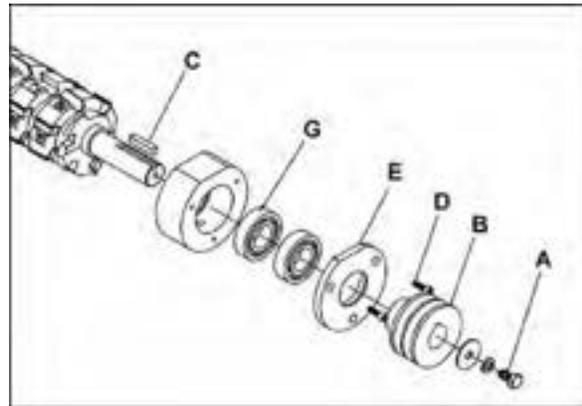

Figure 33
7. Loosen hex cap screw (A, Figure 33) and remove pulley (B, Figure 33) and key (C, Figure 33).
8. Loosen screws (D, Figure 33) on both sides and remove bearing cap plates (E, Figure 33).
NOTE: Figure 33 shows the pulley end of the cutterhead. The procedure is similar for breaking down the opposite end of the cutterhead – refer to assembly drawing on page 39 for the specific parts.
**IMPORTANT:** If the bearings (G, Figure 33) need replacement, it is strongly recommended this be done by qualified service personnel. The bearings are press fitted and must be removed with an arbor press.